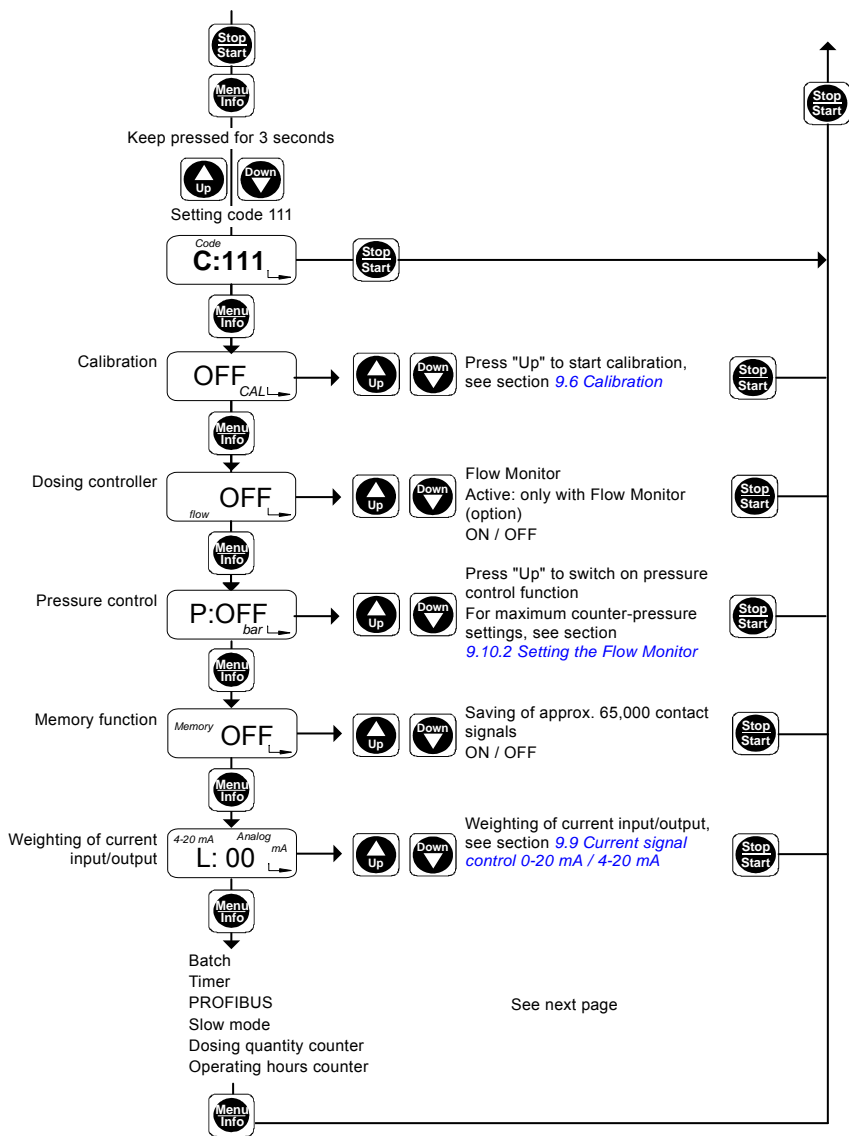

Fig. 42 Second function level, part 1
2. Use the "Up" and "Down" buttons to modify the settings in the relevant menu as shown in fig. 42.